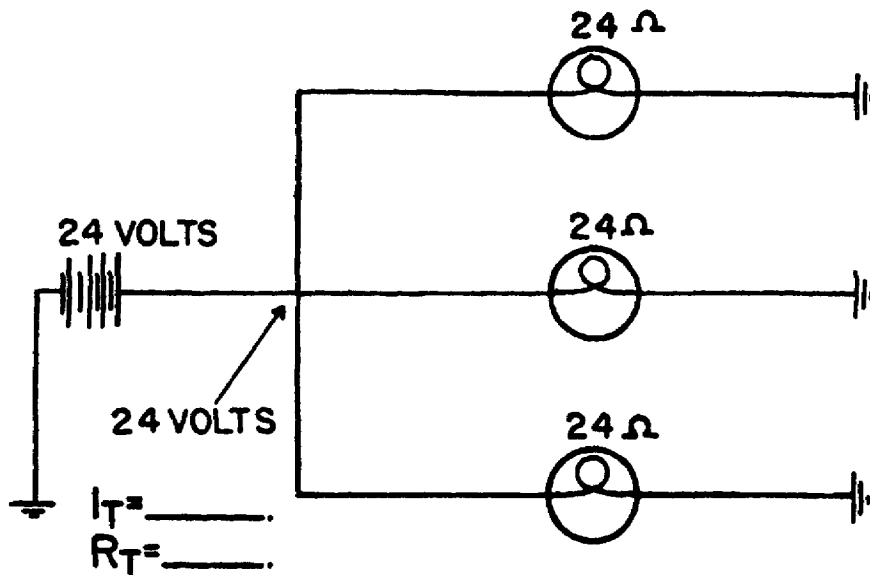

Figure 1-7. Parallel Circuits.
(2) Figure 1-7 demonstrates how the voltage source is applied equally to each of the electrical components in a parallel circuit and how the parallel circuit has two or more paths for current to flow. Opening or closing the circuit of any branch does not affect the other circuits.